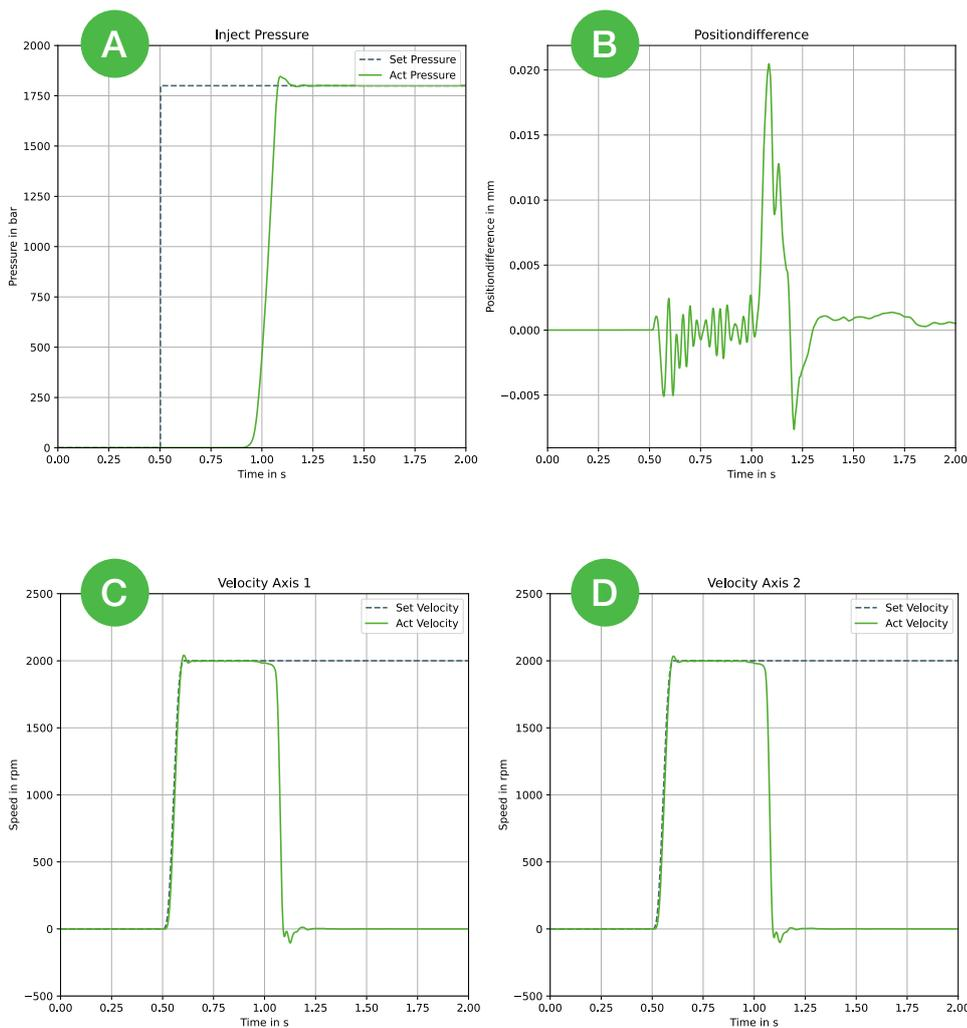

Figure 2.4: Injection // all variables // 2 seconds
- // In the figure 2.4, graphic “Inject Pressure (A)”, we can see that the Injection pressure of 1800 bar is controlled stable with an overshoot of about 3%.
- // Additional we can see in the graphic “Position difference (B)” that the maximum position difference between the axis is about 0.02 mm. During the whole injection process the position balance controller try to reduce the gap to 0.0 mm. This prevents mechanical damage of the machine.
- // The influence from the pressure loop on drives can be seen in the two curves “Velocity Axis1 (C)” and “Velocity Axis 2 (D)” of the motor. The pressure controller reduces the velocity before the reference pressure is reached to control the high pressure.